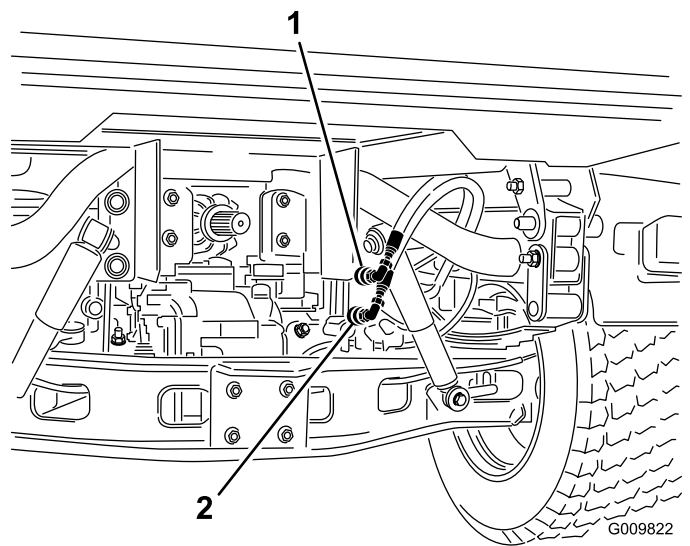

Figure 69
2. On both machine, disconnect the 2 quick-coupler hoses from the hoses secured to the coupler bracket (Figure 69).